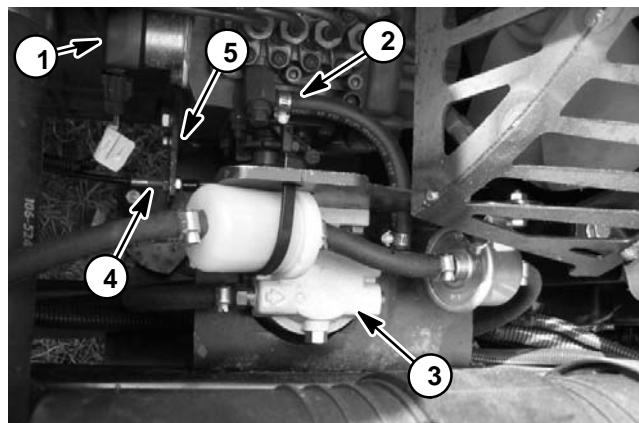

Figure 14
- H. Disconnect wire harness connector from fuel stop solenoid (Fig. 14).
8. Clamp fuel supply hose after the water/fuel filter to prevent leakage (Fig. 14). Disconnect fuel hose from the fuel injector pump on engine. Position disconnected fuel hose away from engine.
10. Remove throttle cable from engine (Fig. 14).
7. Connect fuel supply hose to the fuel injector pump on engine (Fig. 14). Remove clamp from fuel hose.
8. Reconnect throttle cable to engine (Fig. 14).